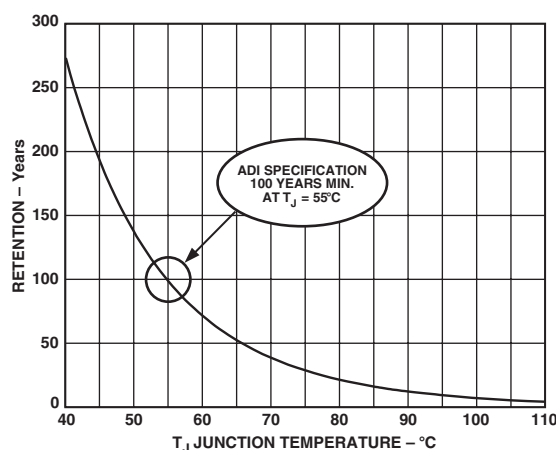

Figure 16. Flash/EE Memory Data Retention
**Retention** quantifies the ability of the Flash/EE memory to retain its programmed data over time. Again, the ADuC834 has been qualified in accordance with the formal JEDEC Retention Lifetime Specification (A117) at a specific junction temperature ( $T_J = 55^{\circ}\text{C}$ ). As part of this qualification procedure, the Flash/EE memory is cycled to its specified endurance limit described above, before data retention is characterized. This means that the Flash/EE memory is guaranteed to retain its data for its full specified retention lifetime every time the Flash/EE memory is reprogrammed. It should also be noted that retention lifetime, based on an activation energy of 0.6 eV, will derate with  $T_J$  as shown in Figure 16.